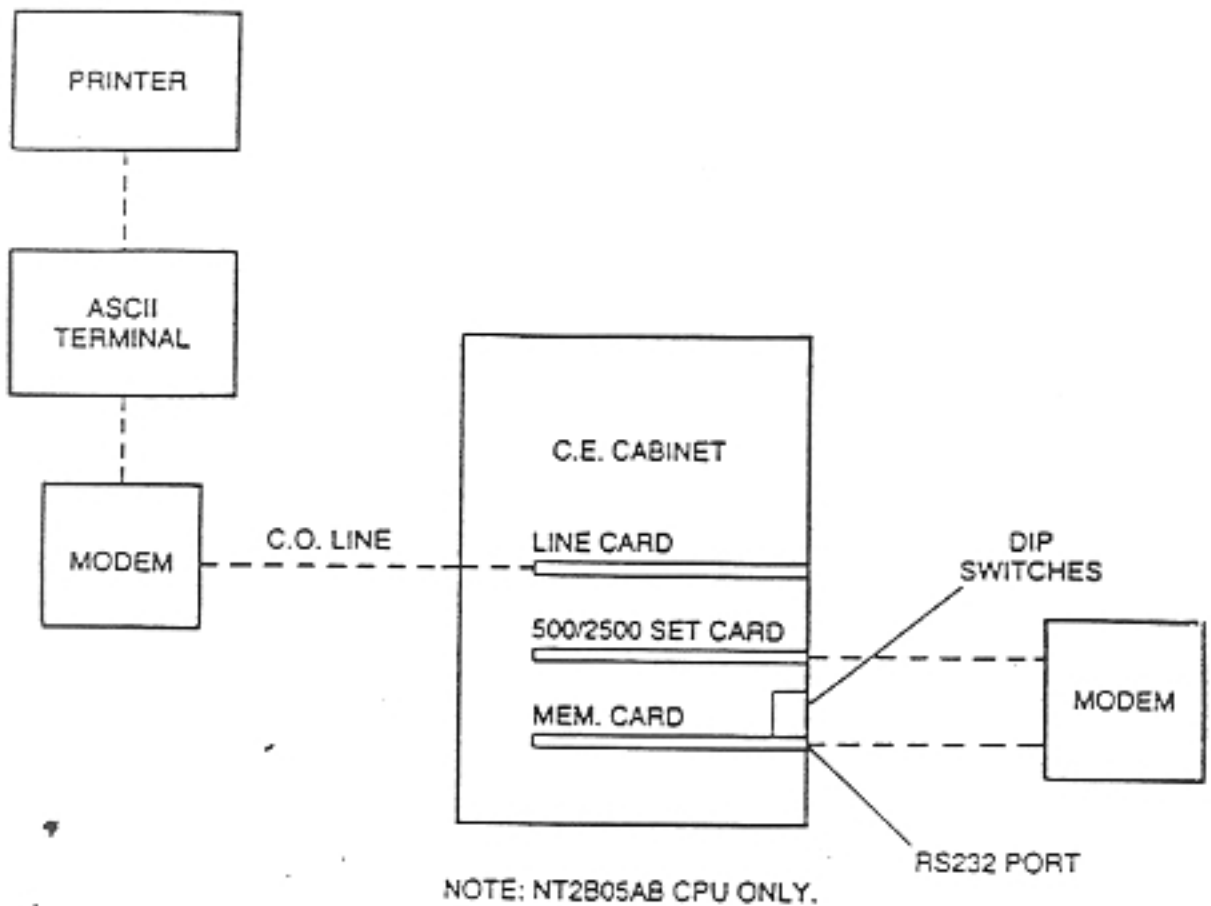

Fig. 5-1
- 5.01 The Remote Applications Configuration allows the operation of the RS232 Interface to be extended to off-site locations via a modem and a remote modem interface. To allow true Remote Applications Configuration of the RS232C Interface (ie: over standard telephone lines), a modem may be connected to the RS232C Interface port. This may be any common type modem capable of automatic answering for incoming calls (see Figure 5-1). Note that the configuration as illustrated may be utilized in the following ways: